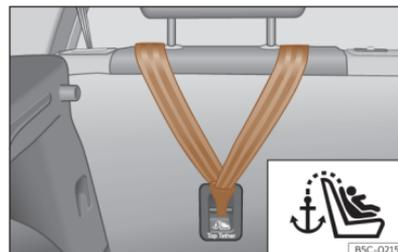
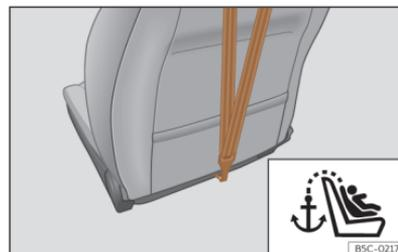

Fig. 57 Rear part of the rear seats: Top Tether strap anchor.
Fig. 58 Rear of front passenger seat backrest: Top Tether strap anchor (not available on all markets).
- Slide the strap and secure it properly with the anchor on the rear seat backrest >>> **Fig. 57**, >>> **Fig. 58**.